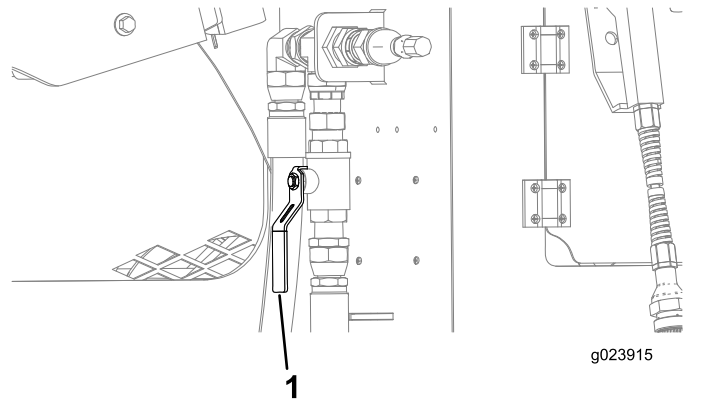

Figure 131
B. Open the valve near the rear compartment (Figure 131).